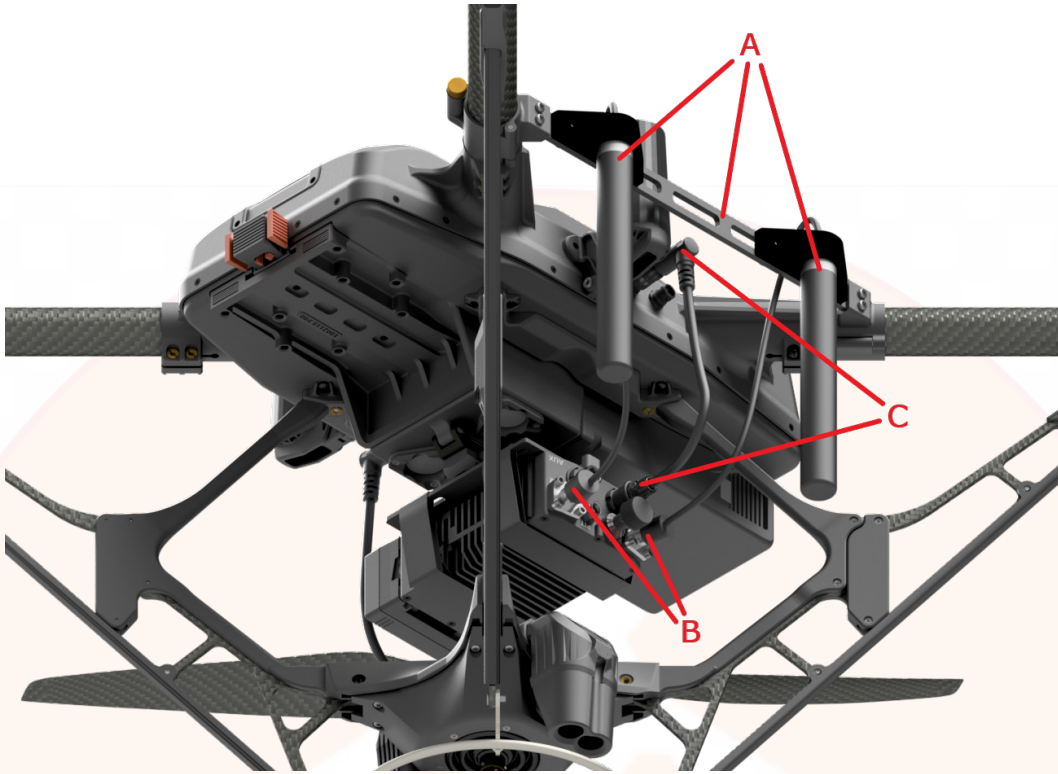

Figure 22: SC4200E-BB Radio Installation 2
4. Connect one Antenna Bracket with two Octane Antennas (**Figure 22, A**) to the left side of the aircraft (see Bracket and Antenna installation instructions above).
5. Connect the Octane Antenna cables to the radio's **A1** and **A2** connectors (**Figure 22, B**).
6. Connect the HL, SC-4200E Primary Port Cable Assembly to the radio's **PRI** connection and plug it into the aircraft's **E1** connector (**Figure 22, C**).